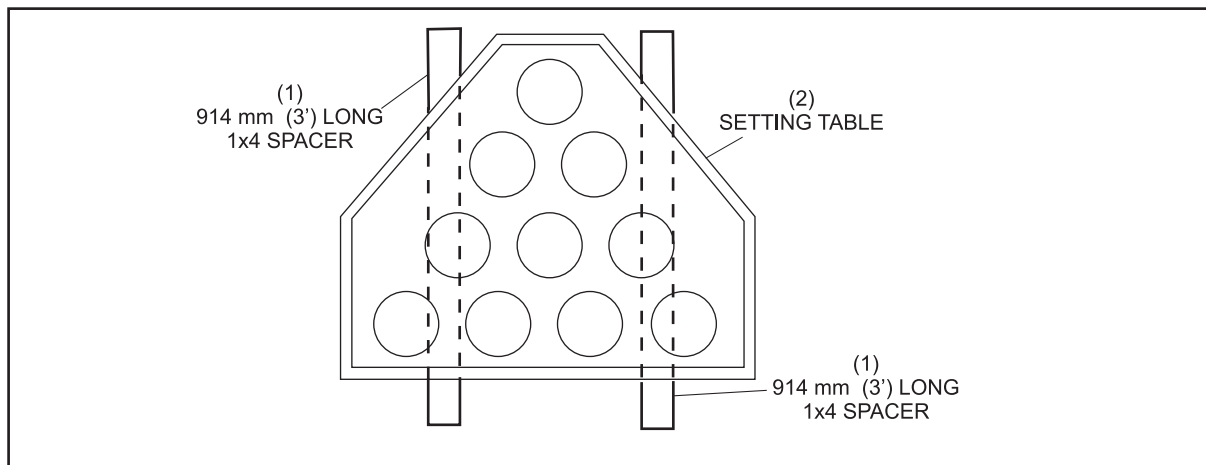

Figure 8-2. Placing Spacers.
2. Place two 914 mm (3') long 1 x 4 spacers on the pin deck positioned so the deck will be supported front and back. Refer to *Figure 8-2*.